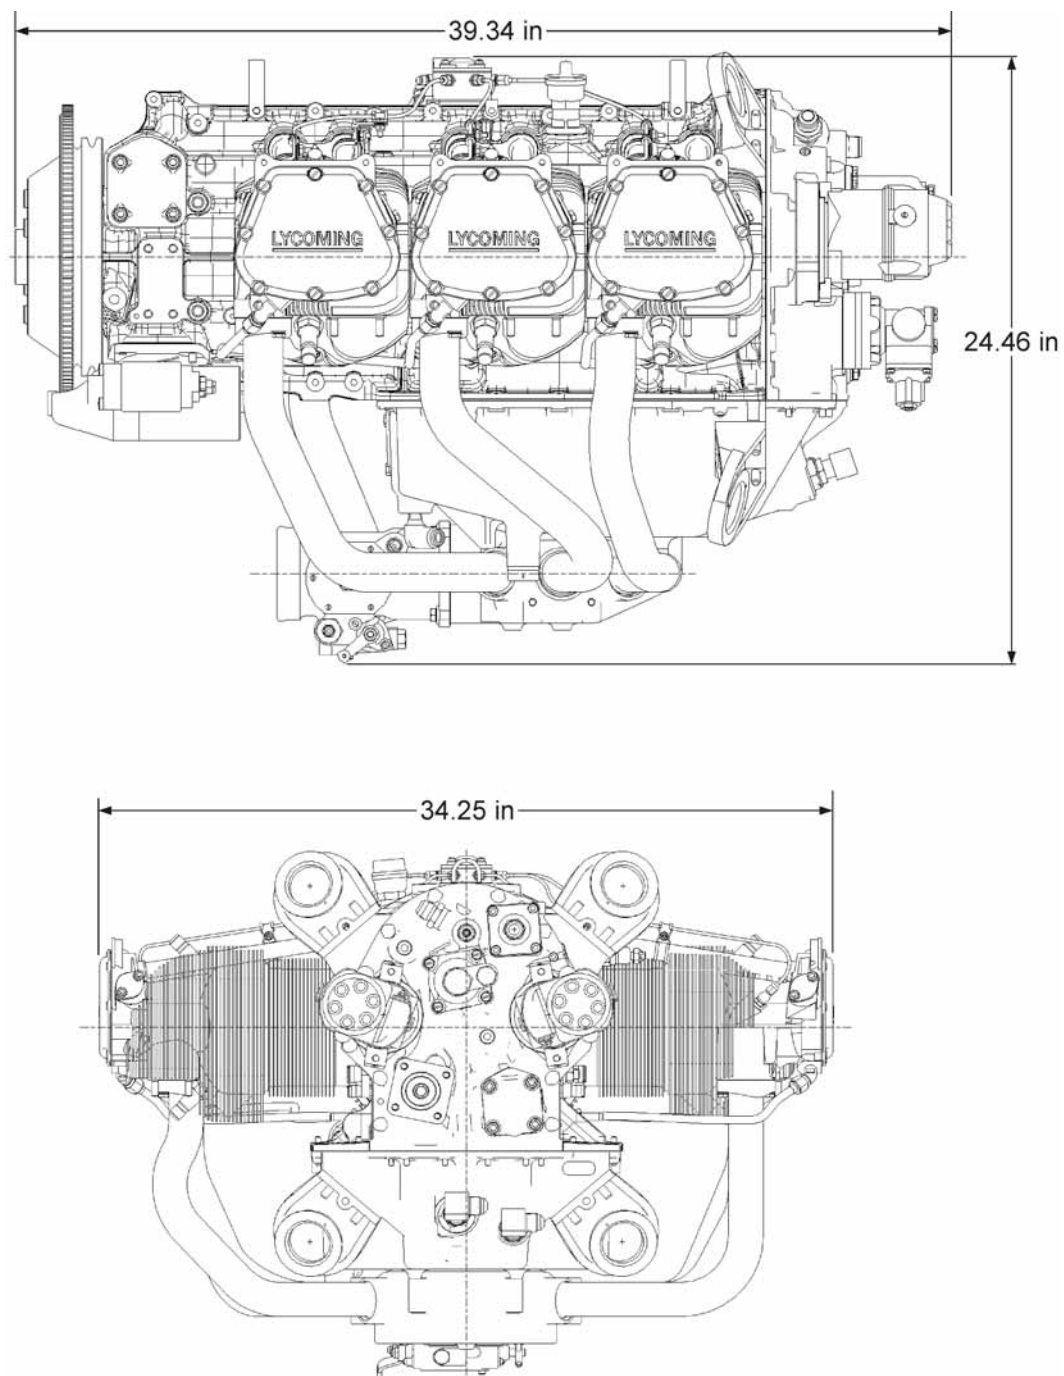

Figure 2-3. Dimensions
- a. Refer to installation drawing, Figure 2-3. Remove cover plate and gasket. When installing the accessory, use the gasket and hardware specified by the airframe manufacturer. Torque to the value specified for the thread size in the Table of Limits, AEIO-580-B1A Maintenance and Overhaul Manual.